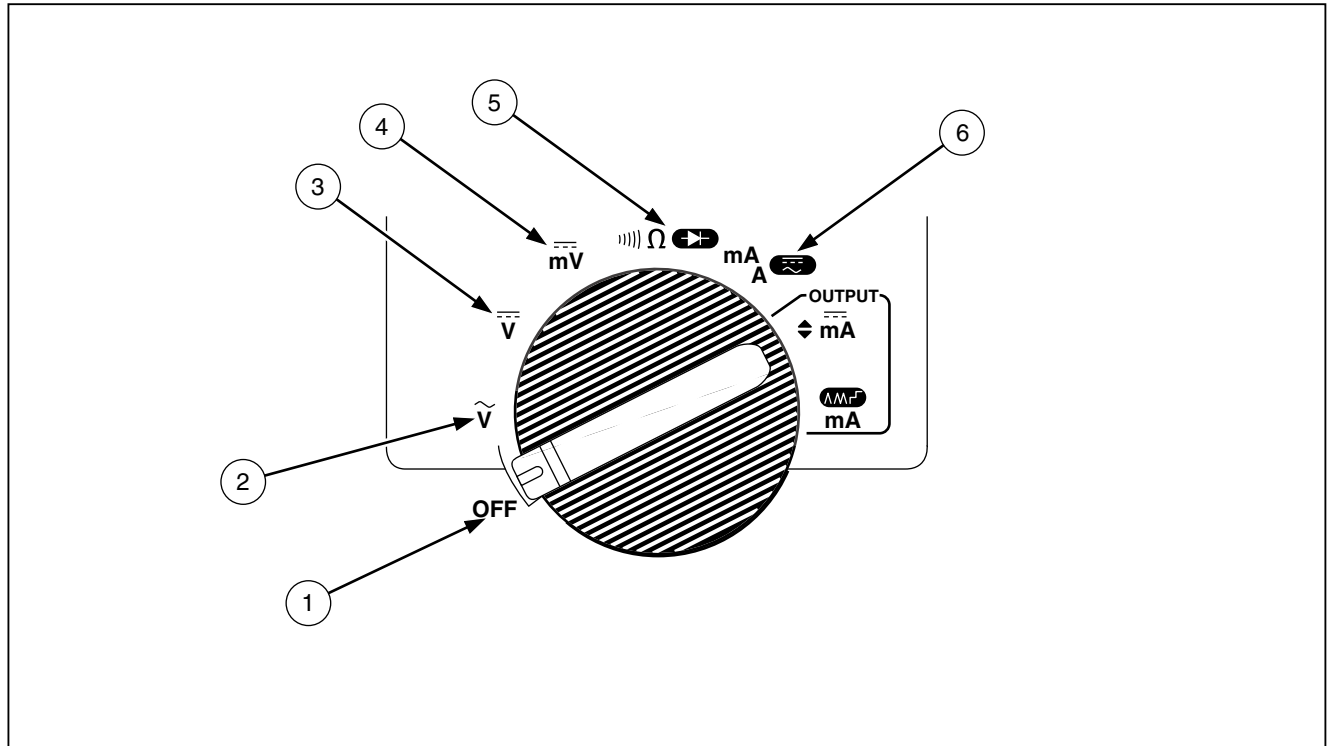

**Figure 2. Input/Output Jacks**
- Figure 2 and Table 2 describe the input/output jacks.